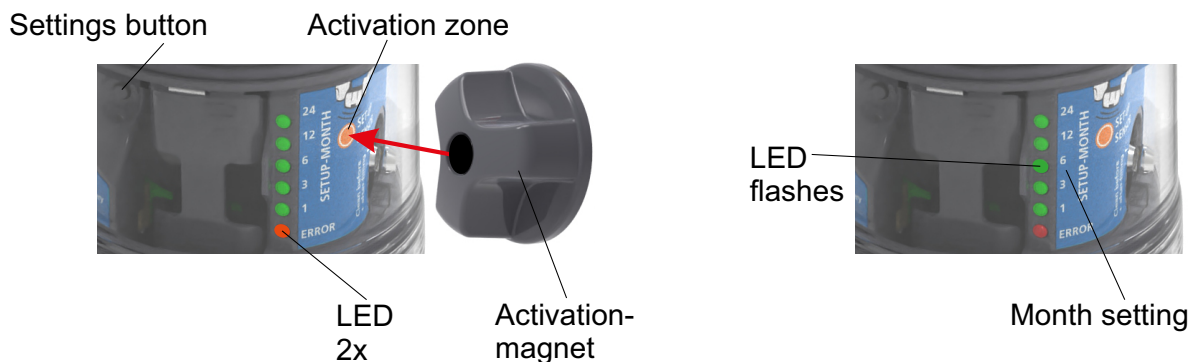

Fig. 17.
- Take off the Activation magnet from the top and approach the activation zone „Fig. 17.“.